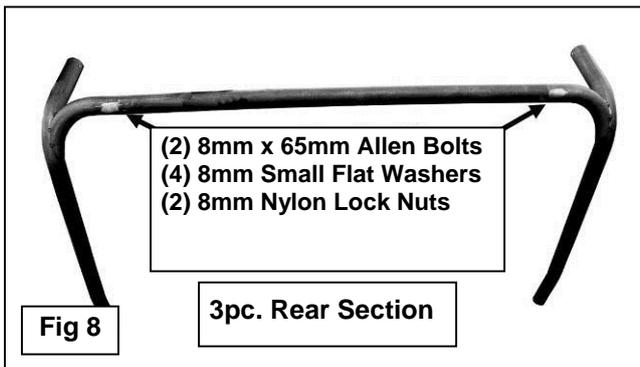

Fig 8
- On a clean, stable work area, assemble the rear section of the Roof Rack by attaching both Upper Rear Legs to the Rear Cross Bar. **NOTE:** The Rear Cross Bar can be installed with the light tabs facing forward (preferred) or rearward (optional). Secure this assembly by using the included (2) 8mm x 65mm Allen Bolts, (4) 8mm Small Flat Washers and (2) 8mm Nylon Lock Nuts, (**Figure 8**). Do not tighten hardware at this time.